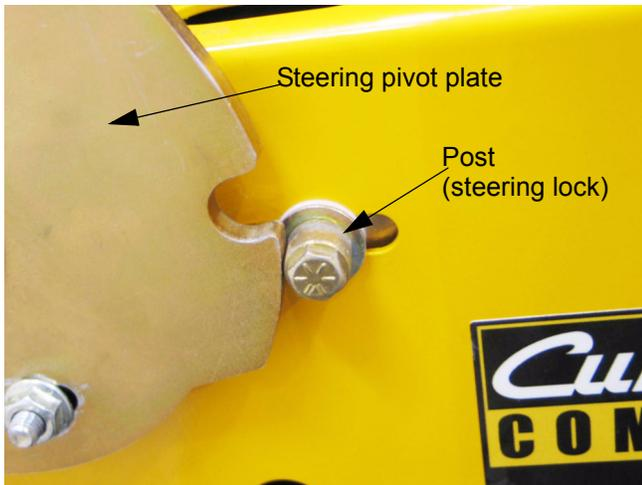

Figure 21.32
21.32. A post (consisting of a bolt, washers, and spacers) is attached to the other end of the steering lock rod, guided by a slot in the control housing. See Figure 21.32.